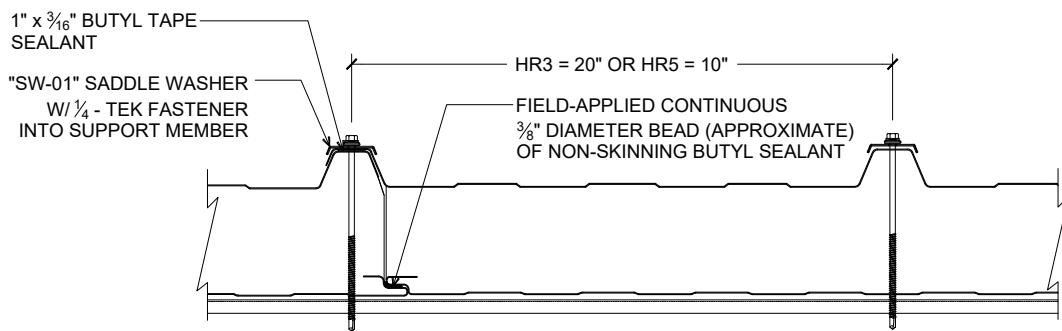

FIGURE 6
- 12.11 THE FASTENING PATTERN WILL DEPEND ON THE PANEL THICKNESS, SPAN, SUBSTRATE, AND DESIGN LOADS. CONSULT YOUR ALL WEATHER INSULATED PANELS REPRESENTATIVE OR THE FACTORY FOR ALLOWABLE PANEL AND FASTENER DESIGN LOADS. IF (2) SADDLE WASHER ASSEMBLIES ARE REQUIRED, ALWAYS PUT THE SECOND SADDLE WASHER ASSEMBLY NEXT TO THE OVERLAPPING HI RIB (SEE FIGURE 6, BELOW).